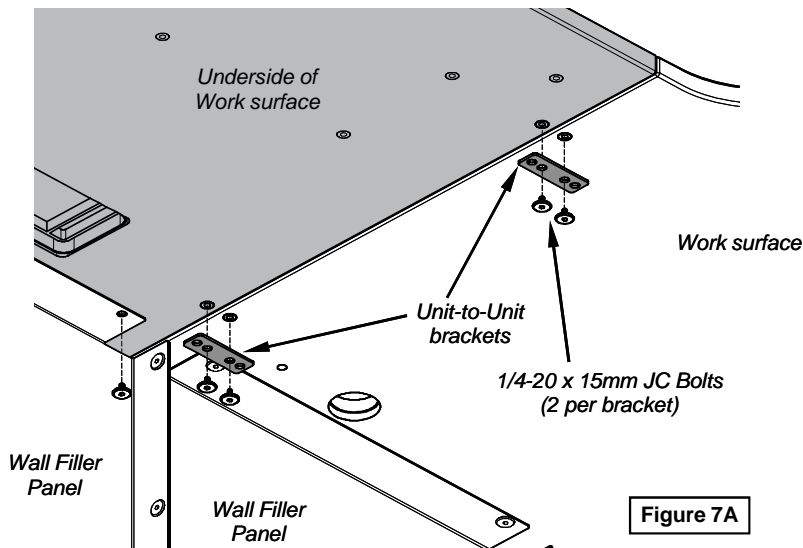

Figure 7A
- Attach the (2) unit-to-unit brackets to one installed work surface (use inner holes) with 1/4-20 x 15mm JC bolts. Do not tighten completely. **Figure 7A.**